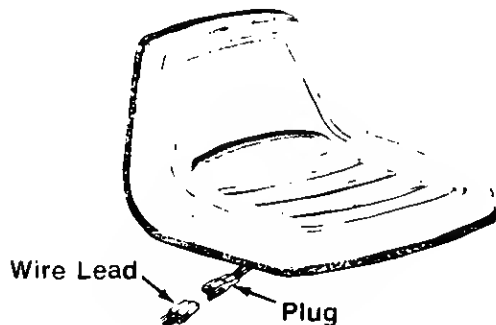

FIGURE 15.
2. Plug the wire lead which is in the wire harness beneath the seat into the plug on the wire lead extending from the right hand side of the seat. See figure 15.